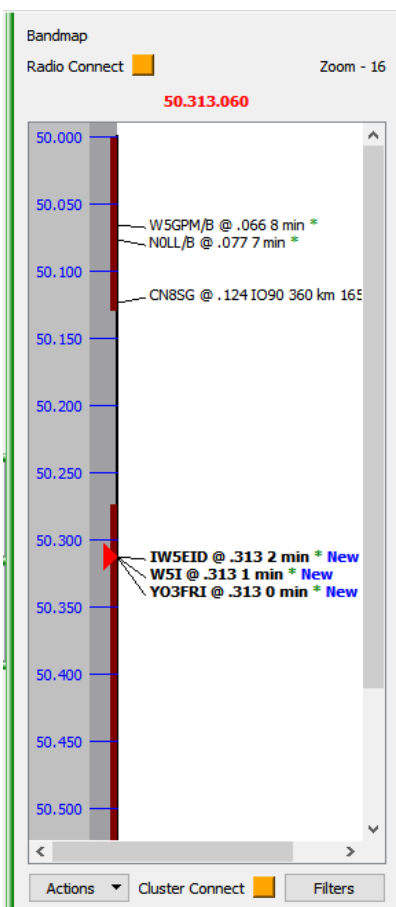

Figure 151 – Bandmap display
An example display is shown in Figure 151. **Beware:** if you don’t see anything, check your filters
To vary the zoom in order to focus on areas of interest use the scroll wheel¹³⁰ while hovering over the grey frequency bar. The current zoom setting (- 16, the least zoom, in Figure 151) is displayed in the top right of the panel. The scroll bar on the right can be used to move within the extended display thus created, or the scroll wheel while hovering over the white portion of the panel¹³¹.
- The current rig frequency is indicated by the black ‘play’ symbol (‘dial cursor’ on 144.290 in Figure 151). If this symbol turns red it indicates that it is a frequency/mode pairing that does not match the bandplan.
- If the dial cursor is not viewable, click the dial frequency at the top of the panel (144.290 at top of Figure 151) to bring that frequency back into the viewport.